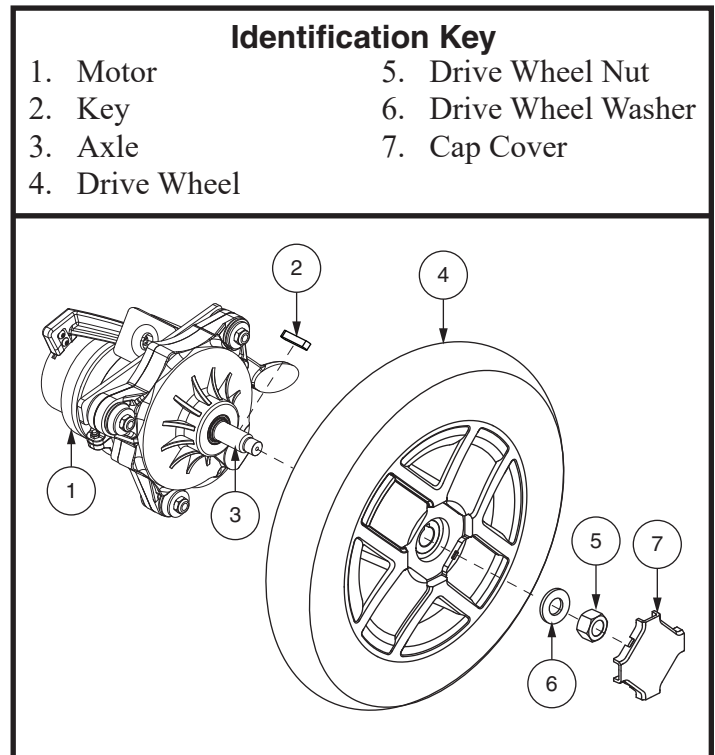

Figure 18. Drive Wheel Removal
6. Remove the drive wheel nut and washer from the axle. **See figure 18.**